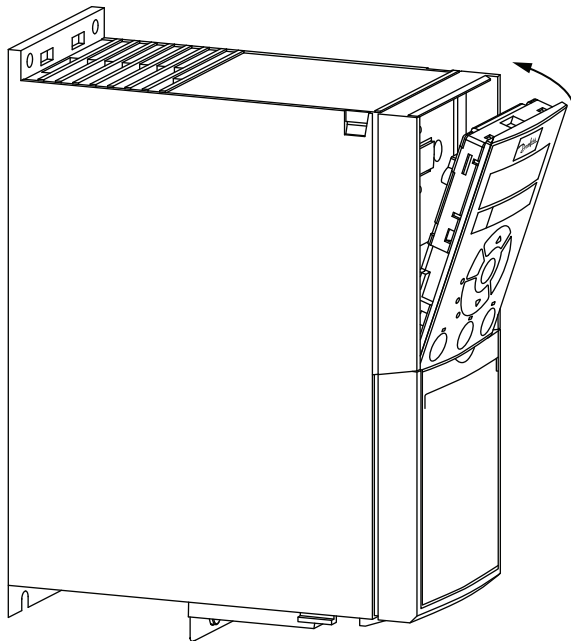

Fig. 63 — Secure Keypad in Place
2. Push the top of the VFD keypad into the variable frequency drive as shown in Fig. 63.